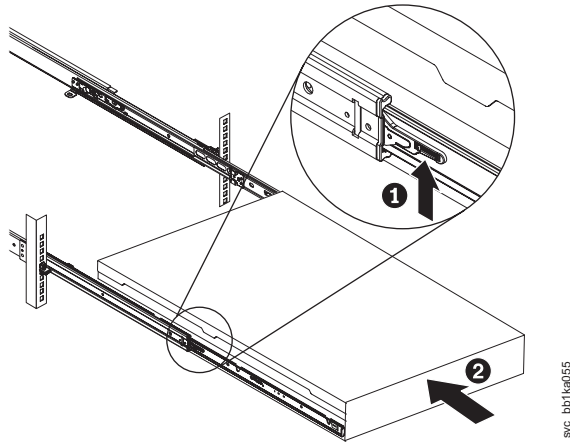

Figure 224. Raising the SAN Volume Controller 2145-CF8 or 2145-CG8 locking levers of the slide rails of the rack
8. Lift the locking levers ( 1 in Figure 224 on page 227) on the slide rails and push the server 2 all the way into the rack until it clicks into place.